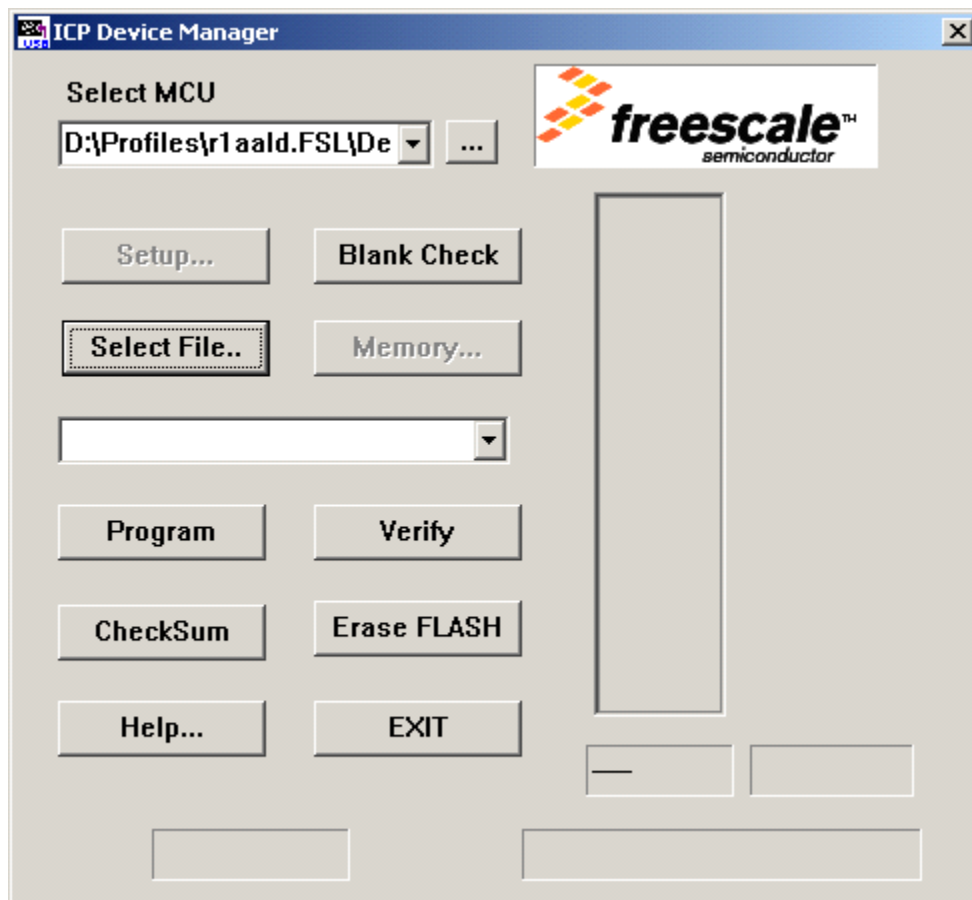

Figure 11. Flash Operation Screen
6. Open USBICP.exe, see Figure 11, when prompted for an IMP file select jb16_icp_me.imp.